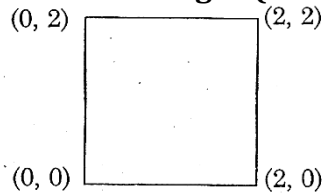

Fig. 1
1. (i) Rotate the rectangle (0, 0), (2, 0), (2, 2), (0, 2) shown in Fig. 1, 30° counter clockwise about its centroid and find the new coordinates of the rectangle. (Nov/Dec 2015)